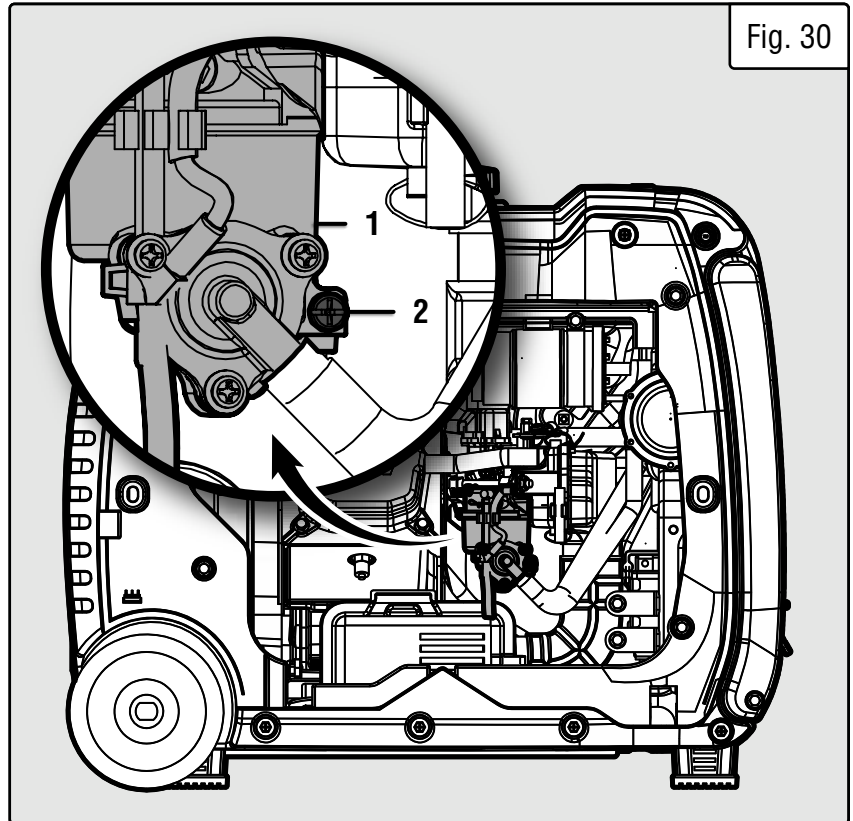

Fig. 30
4. The carburetor (Fig. 30 - 1) can be accessed between the engine and the air filter. Locate the transparent tube from the carburetor that extends down through the base plate of the generator.
6. Open up the carburetor drain screw (Fig. 30 - 2) with a Phillips-head screwdriver and drain out any gasoline that has built up inside the carburetor through the drain tube into the approved gasoline-storage container.